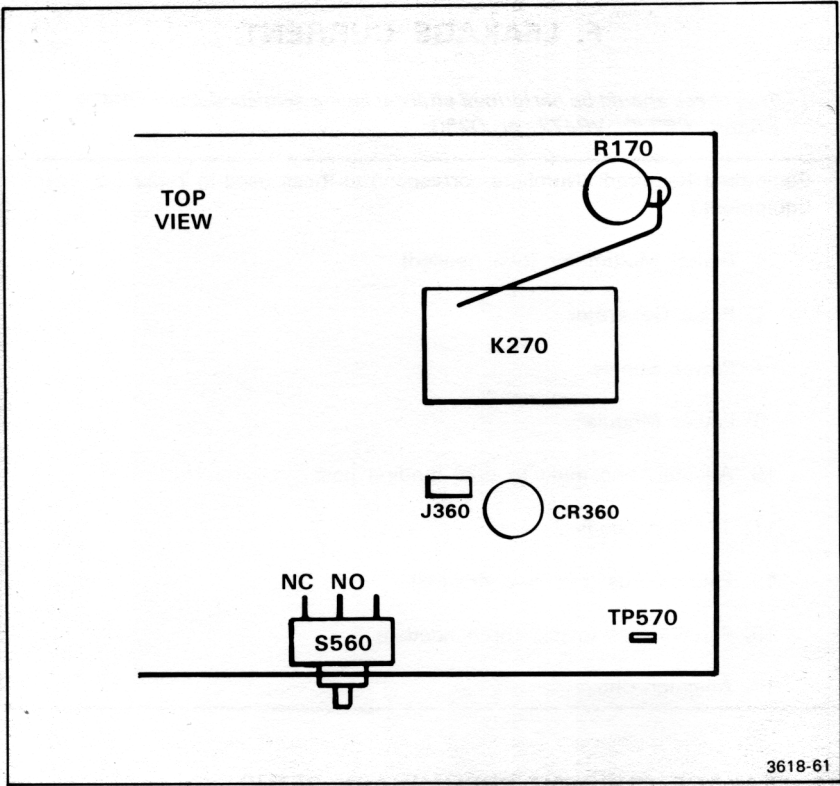

Figure 5-8. Location of J360.
- c. Place alligator clip across NO and NC terminals of switch S560. Figure 5-8 shows S560 position and terminal locations.
- d. Remove jumper J360. Figure 5-8 shows the location of J360.
- c. Remove jumper J360. Figure 5-8, in step F1, shows J360.